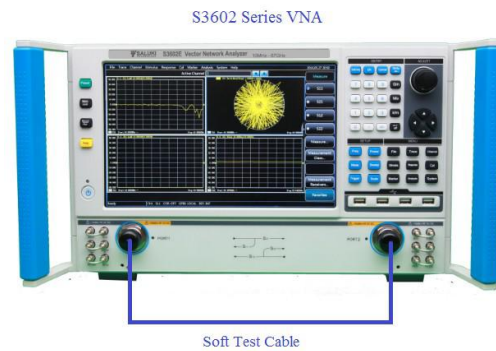

Fig. 11.7 Block Diagram of System Trace Noise Test
- As shown in Fig. 11.7, connect the system and preheat is for 60min at least.